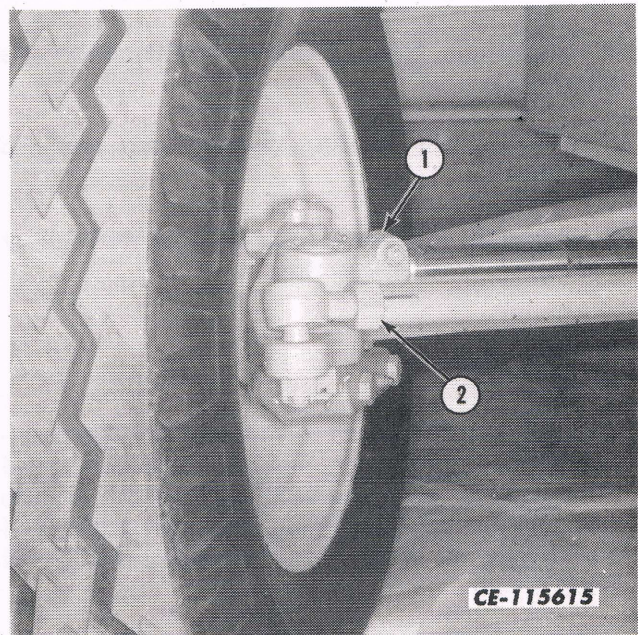

Fig. 9
- d. Loosen the piston rod adjustment lock nut (1) and turn the piston rod as necessary so that the tractor turns equally in both directions. See Fig. 9.